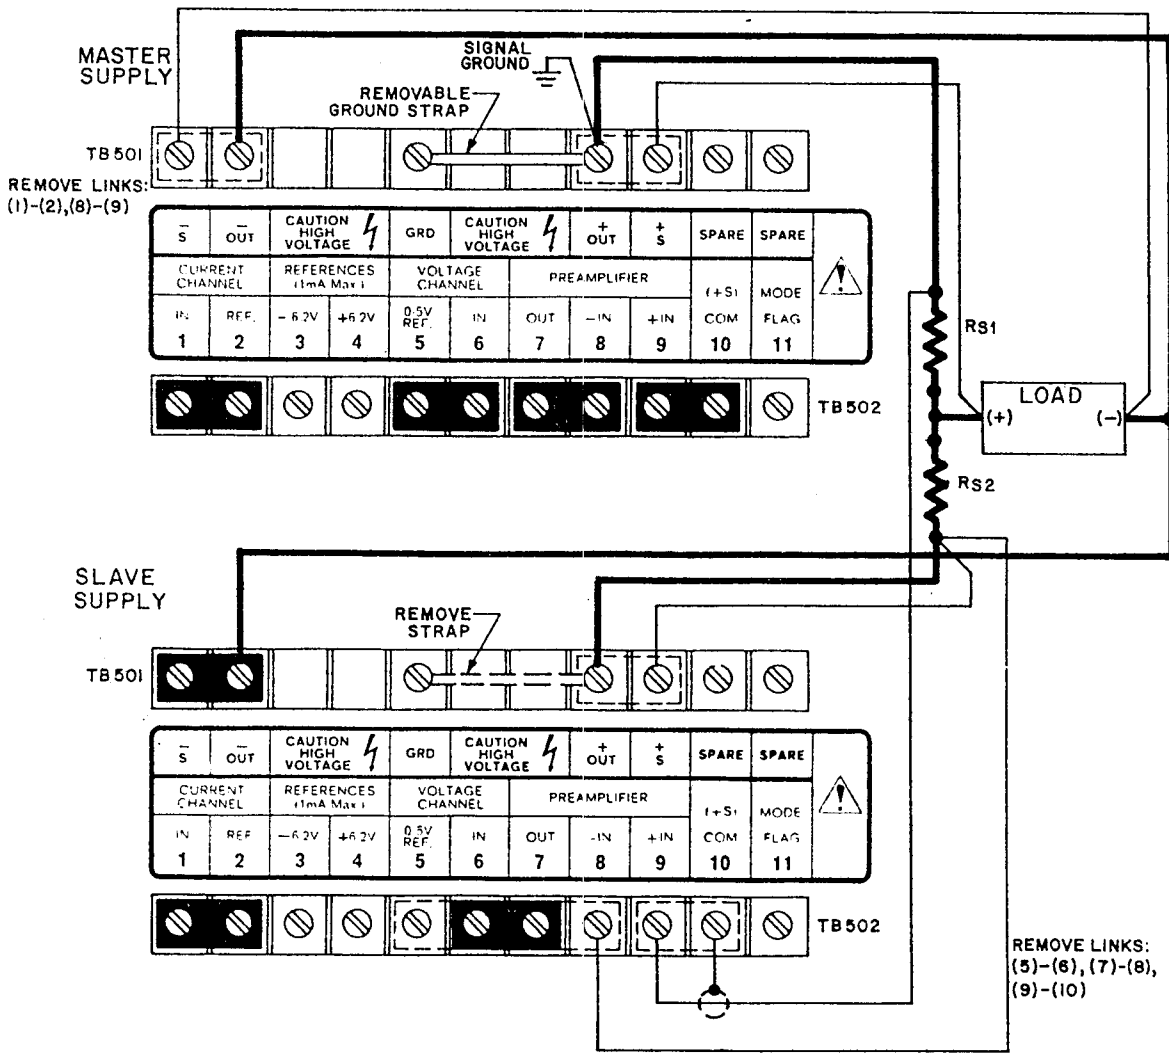

FIG. 3-14 "MASTER/SLAVE" PARALLEL CONNECTION OF TWO APH POWER SUPPLIES (METHOD 1)
- 3-51 MASTER/SLAVE PARALLEL CONNECTION, DRIVING THE SLAVE'S VOLTAGE AMPLIFIER. (Refer to FIG. 3-14.) The two sensing resistors ( $R_{S1}$ ,  $R_{S2}$ ), in series with the positive output lead of both supplies are selected to drop approximately 0.1 to 0.5 volts at the maximum current for each APH unit. The two voltage drops are compared at the input to the SLAVE pre-amp. The differential signal at the pre-amp is amplified and the pre-amp output is connected to the SLAVE Voltage amplifier, which drives the SLAVE output so that the drop across the two resistors is zero. If equal resistors have been chosen for  $R_{S1}$  and  $R_{S2}$ , the slave current into the load will equal the master current. The ratio of their currents will follow the resistors proportionally.
- 1) Connect the supplies, the load and all other external components as shown in FIG. 3-14.